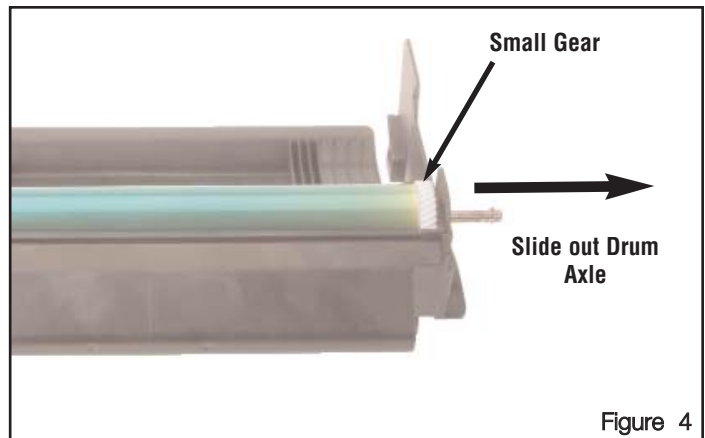

Figure 4
- b. Slide out the Drum Axle from the small gear side of the drum, as shown in Figure 4.